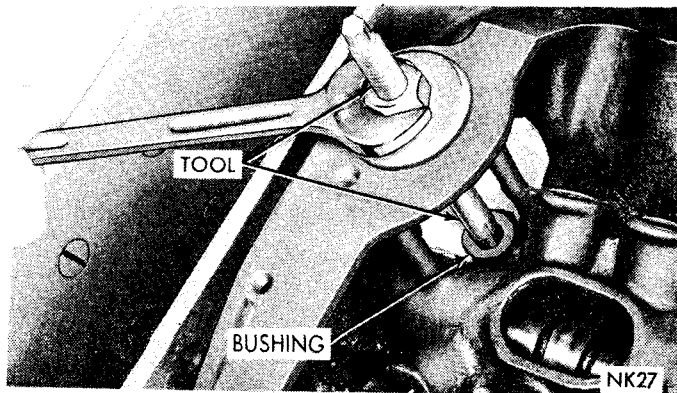

Fig. 30—Removing Distributor Drive Shaft Bushing
(1) Insert Tool C-3052 into old bushing and thread down until a tight fit is obtained, (Fig. 30).
(2) Hold puller screw and tighten puller nut until bushing is removed.